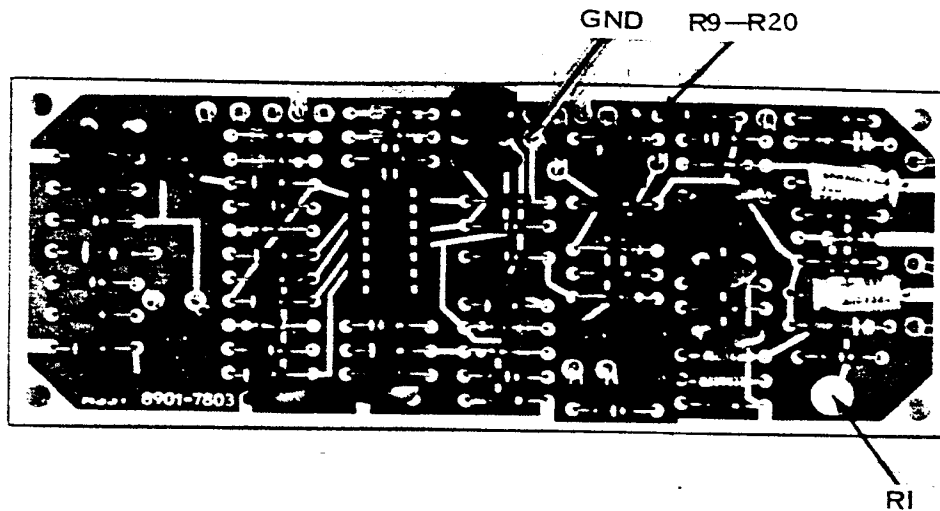

Figure 2. Vertical amplifier, test point and adjustment location.
(2) Align trace on crt horizontal graticule centerline, using HORIZ and CH2 POSITION controls.
(3) Rotate CH2 VOLTS/DIV VERNIER control from CAL to fully counterclockwise while observing crt trace. If trace shifts from horizontal centerline, adjust front panel BAL control for no trace shift.
(4) Return VARIABLE control to CAL position.
(5) Set TI VERTICAL MODE to CH1.
(6) Repeat steps (3) and (4) above for CH1.
(7) Set TI VERTICAL MODE switch to CH2 and connect digital voltmeter (A3) to junction of A2A3R9 and A2A3R20 (fig. 2) and chassis ground. If digital voltmeter does not indicate zero voltage ± 50 mV, perform **b(1)** below.
(1) Adjust A2A3R1 (fig. 2) for 0.0 volts.